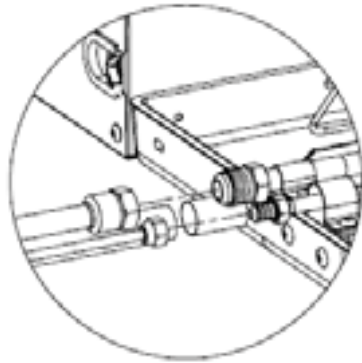

Fig. 13
- (1) Remove pipe cover and pipe plug.
- (2) Direct the flared part of copper pipe to the center of screwed joint. Twist on the flared nut tightly by hand, as in Fig. 13. (Make sure indoor pipe is correctly connected. Improper alignment of the center will prevent flared nut from being securely fastened. Thread of nut will get damaged if not aligned correctly.)